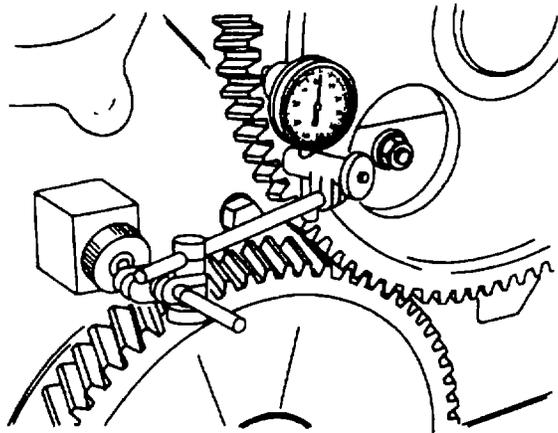

Figure 9-19. Measuring Camshaft End Clearance
- (16) Attach a dial indicator (Figure 9-19) to the housing and check the camshaft end clearance. The end clearance shall be 0.006 to 0.013 inch (0.15 to 0.33 mm) on both camshafts. If the end clearance is not within the limits, remove the camshaft gear and change the thrust plate (32, Figure 9-15).